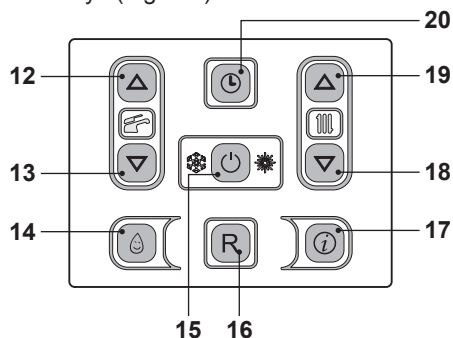

Fig. 3.1
If a radiator (or a convector) does not heat up, check that no air is present in it and that its valve is open. If the ambient temperature is too high, do not alter the radiator valves. Reduce the central heating temperature instead by means of the room thermostat or by pressing the 18 and 19 heating adjustment keys (Fig. 3.1).
Press the reset key 16 on the boiler control panel (Fig. 3.1) to reset its functioning.